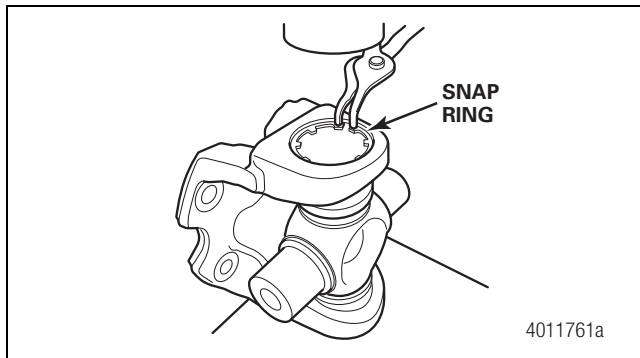
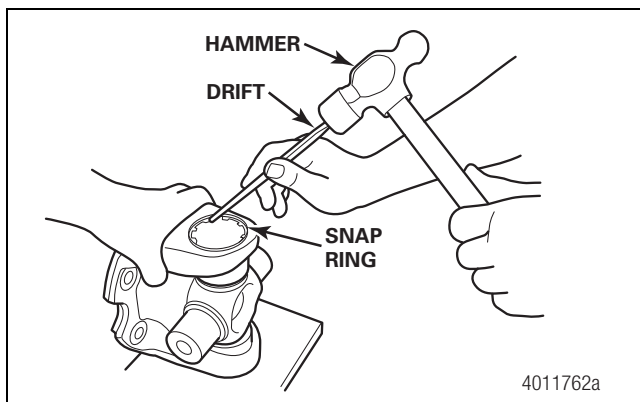

Figure 4.65
Figure 4.66
7. Install the new snap ring. Ensure it is seated all the way around the groove. Use a drift and hammer if needed to seat it in the groove all the way around. If the snap ring will not seat correctly, make sure the snap ring groove is clean and free of debris. Figure 4.65 and Figure 4.66.